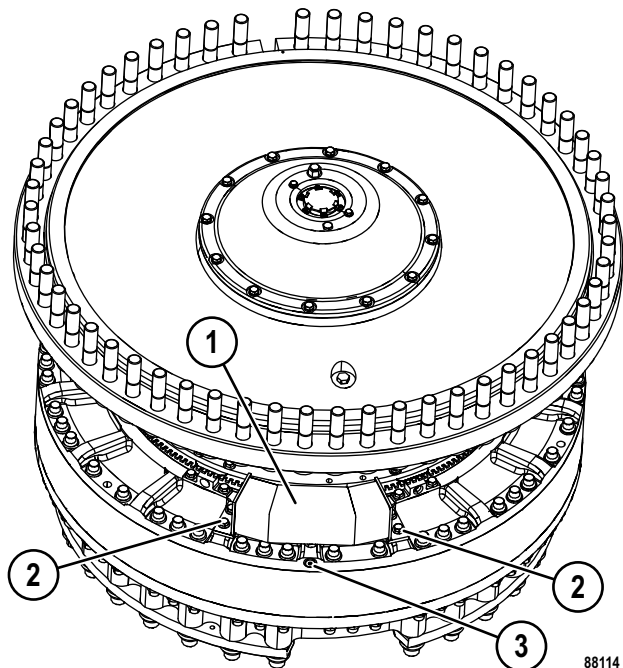

FIGURE 50-97. CATCHMENT TANK INSTALLATION
45. Install the catchment tank (1, Figure 50-97) and install the catchment tank plug (3) and mounting hardware (2).